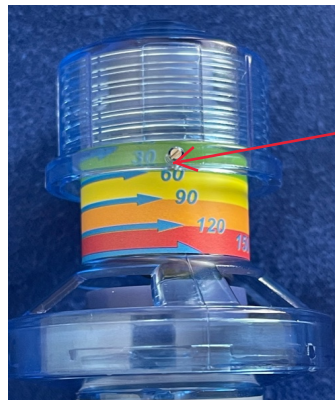

Figure 2
- 2, One full turn will take the device to 60cmH₂O. The screw will be sitting on (just above) the number 60, (see figure 2)